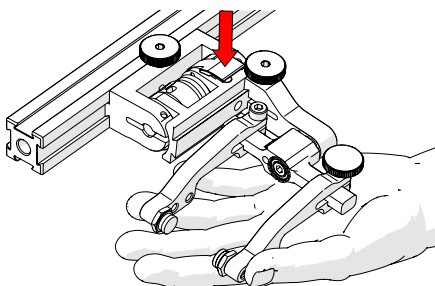

Fig. 141 - Lift slightly and press latch
2. Lift probe holder slightly and press the latch button (Fig. 141) to release the probe holder the full 45° degrees.